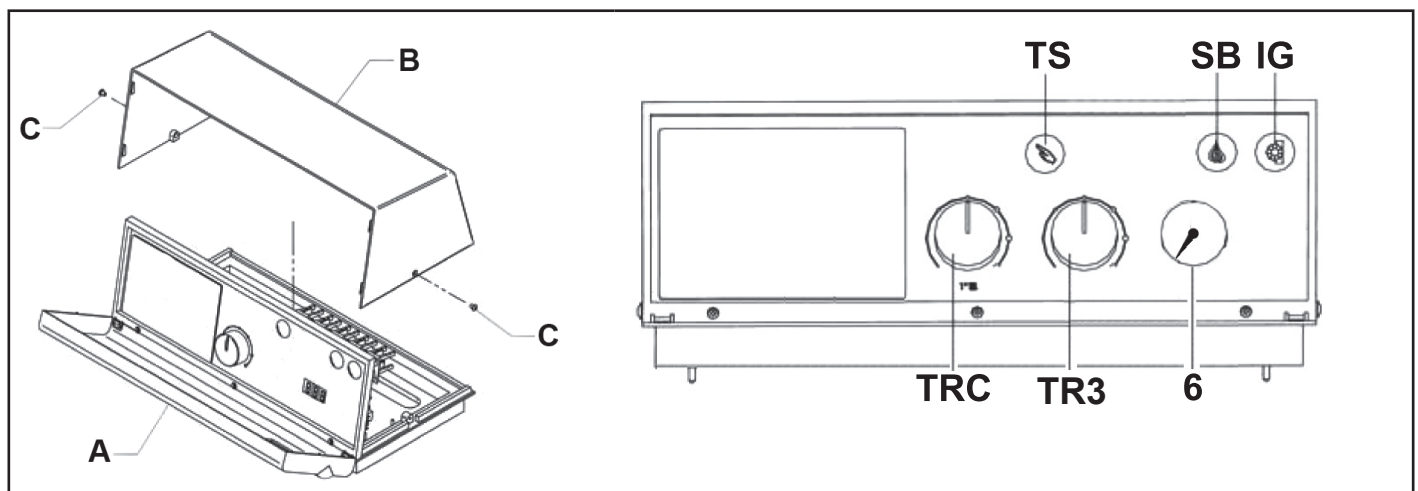

fig. 1
The burner connection and power supply cables ground wires must be a few mm longer than the other wires in the same cable. For connections between the burner, electric panel and power supply, use H07 RN-F cable for visible system connections. For other types of system or for particular environmental situations, consult the applicable regulations. The formation and diameter of the wires are calculated on the basis of the power absorbed by the burner. To access the instruments ("fig. 1"), rotate the front panel (A). To access the connection terminals and to extend the capillary tubes of the thermostats and thermometer, first remove the top panel (B), then remove the 2 side screws (C). The regulation thermostat (TRC) can be adjusted by the user with the front knob. The safety thermostat has a fixed setting and is equipped with a manual reset function.